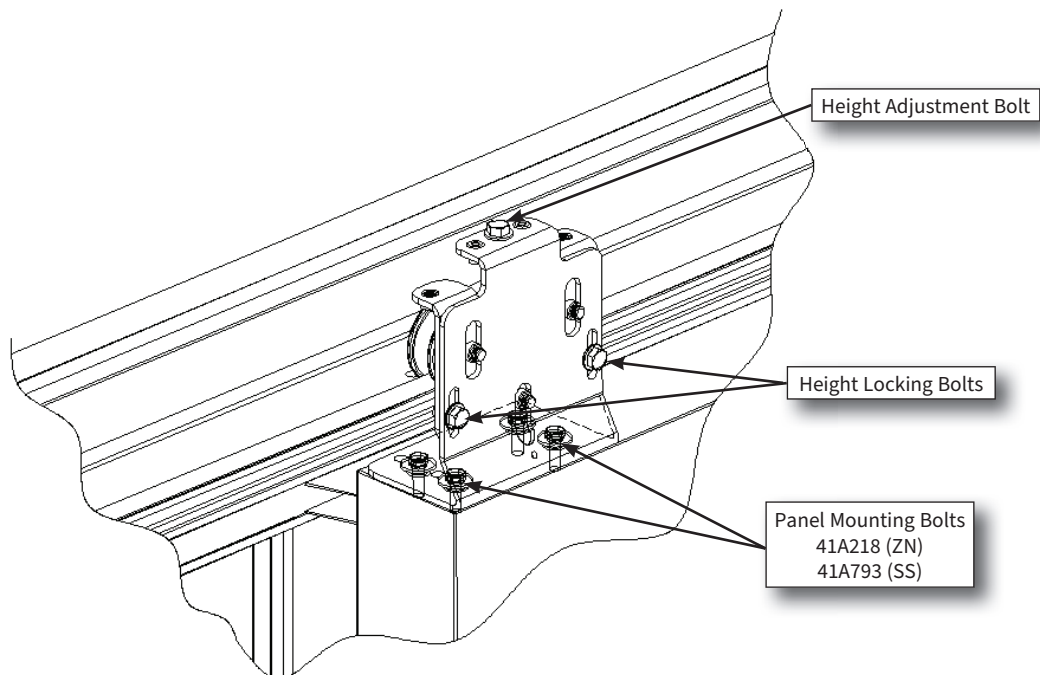

Figure 33: Adjust Trolley Height
- 3 Adjust the sill gasket position by adjusting door heights of the trolley assemblies on both ends of the header rail assembly (Figure 33). Loosen 2 height locking bolts on each trolley. Adjust height using height adjustment bolt until bottom panel gasket makes contact with floor. Re-tighten height locking bolts. Make adjustment when door is closed.